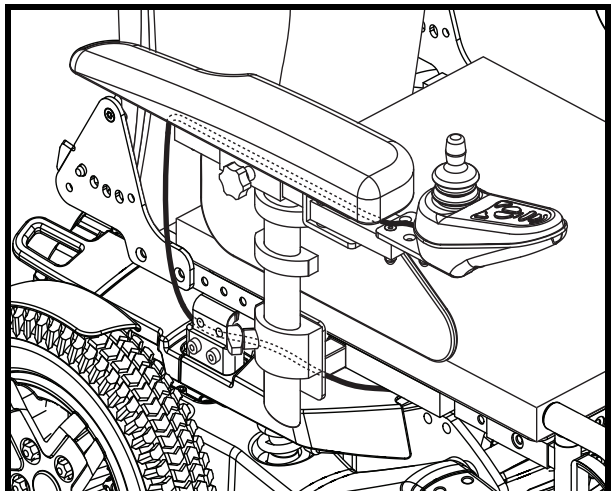

Figure 19. Harness Routing
7. Route the controller harness to the front of the power base and reconnect the controller. **See figure 19.**